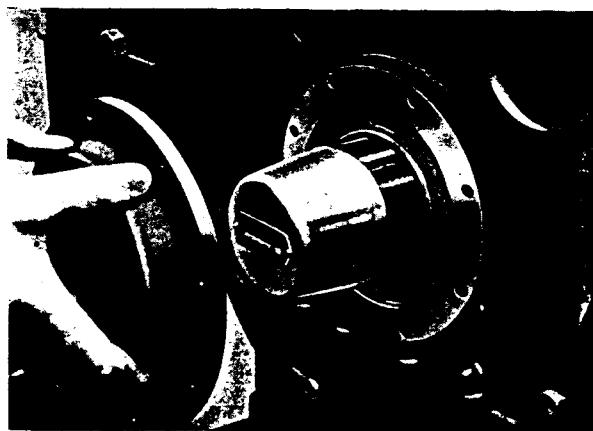

FIG. 156.
8. Slide rear oil seal and cover assembly on to spigot of crankshaft, using Service Tool FT.105A/I, well oiled, as guide to prevent damaging the seal. See Fig. 156.